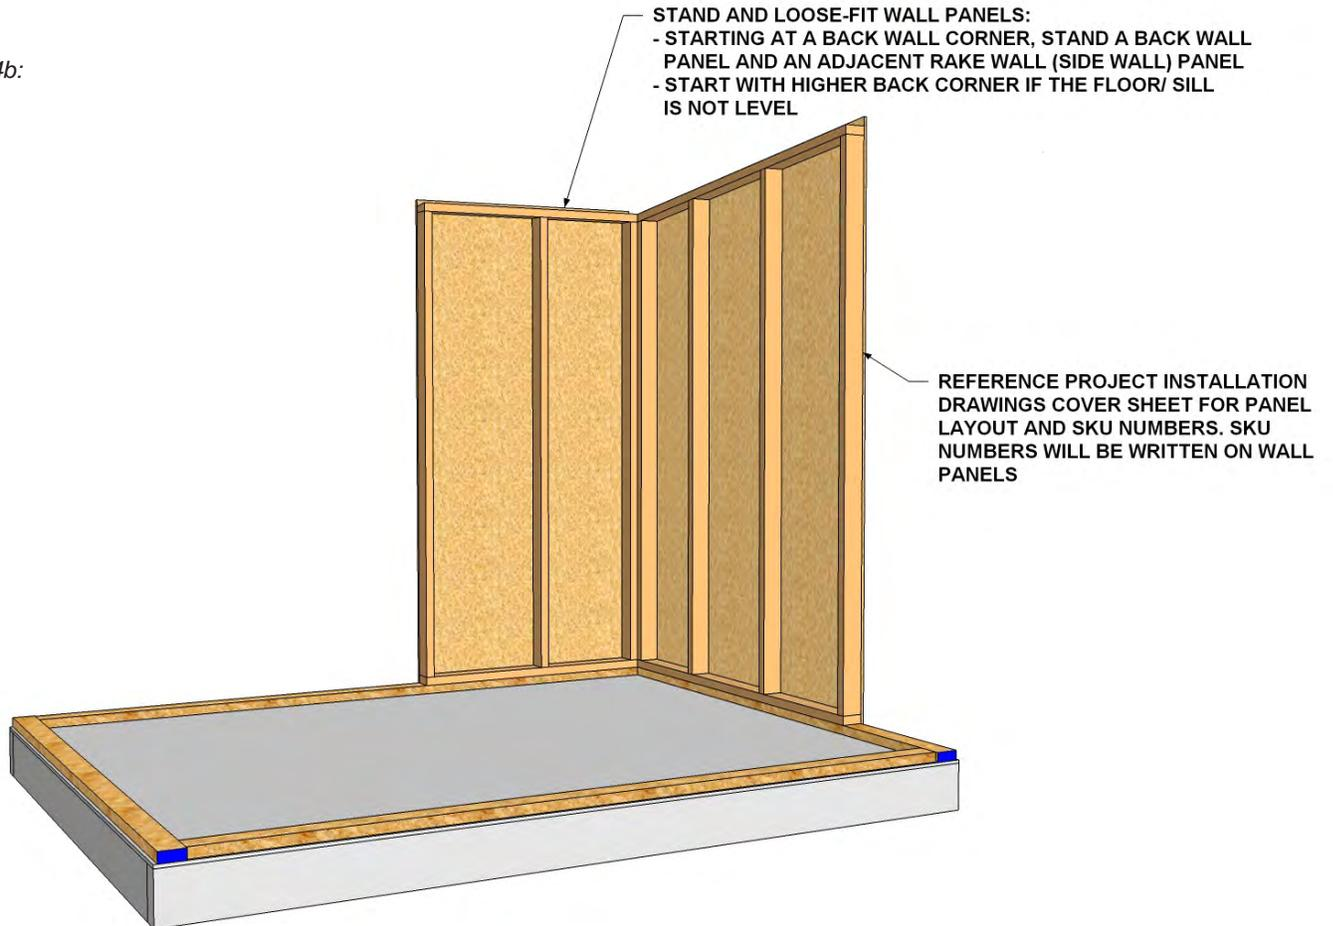

Fig 5a:
- USE METHODS DESCRIBED IN FIG 5a-6a
- START WITH THE FRONT-LEFT PANEL AND INSTALL USING METHODS DESCRIBED IN FIG 5a-6a
IN FIG 5a-7b